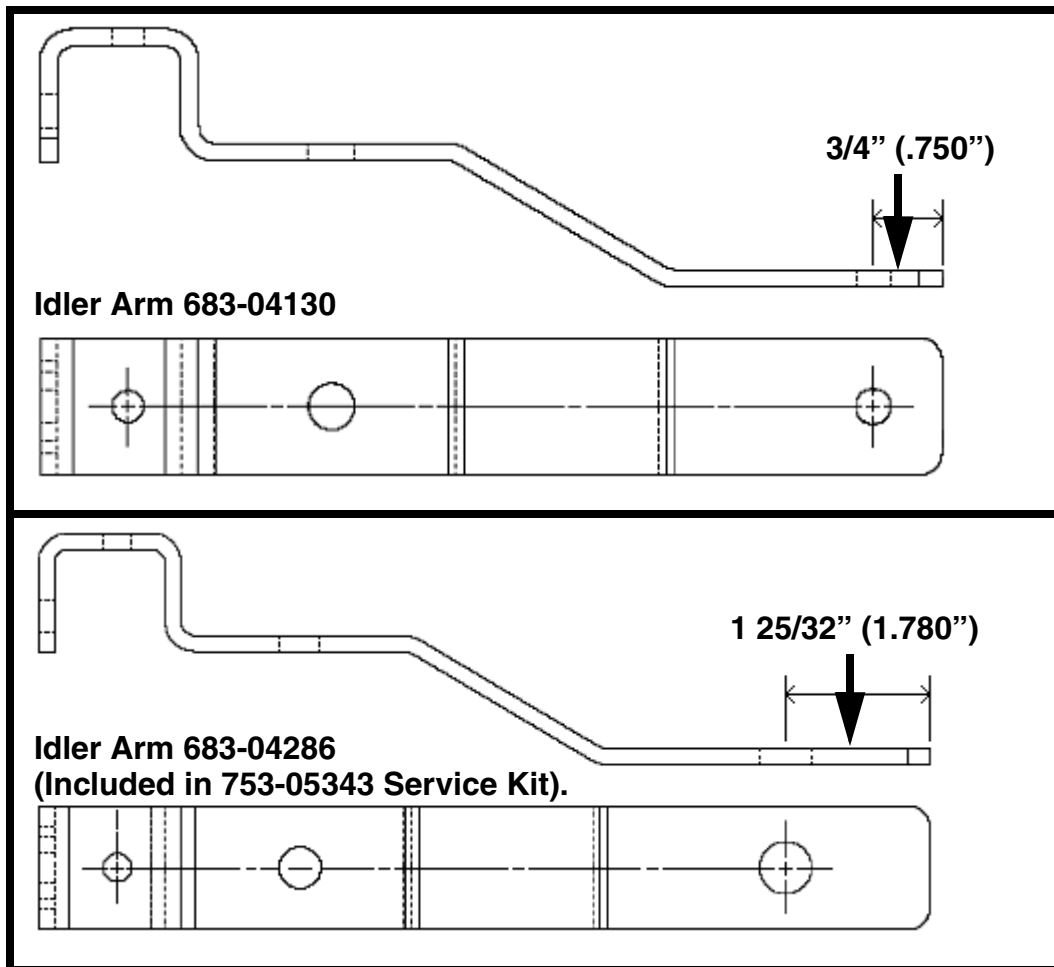

FIGURE 1
**#1.** The first issue is the transmission's upper drive belt will come off the tensioning idler pulley under certain operating conditions. This will result in the loss of drive & possible damage to the upper drive belt. This could be caused by the extension spring breaking or becoming unhooked. If the above occurs or the unit falls in the serial number range listed above order and install **Service Kit 753-05343**. If the Unit does not fall into the serial number range above & the above issue is present, compare the end of the idler bracket on the unit to the diagrams in figure 1. If the Idler arm measures  $3/4"$  (.750") from the center of the bolt pivot hole to the end of the idler arm & has a  $3/8"$  bolt for the pivot bolt, Install **Service Kit 753-05343**.